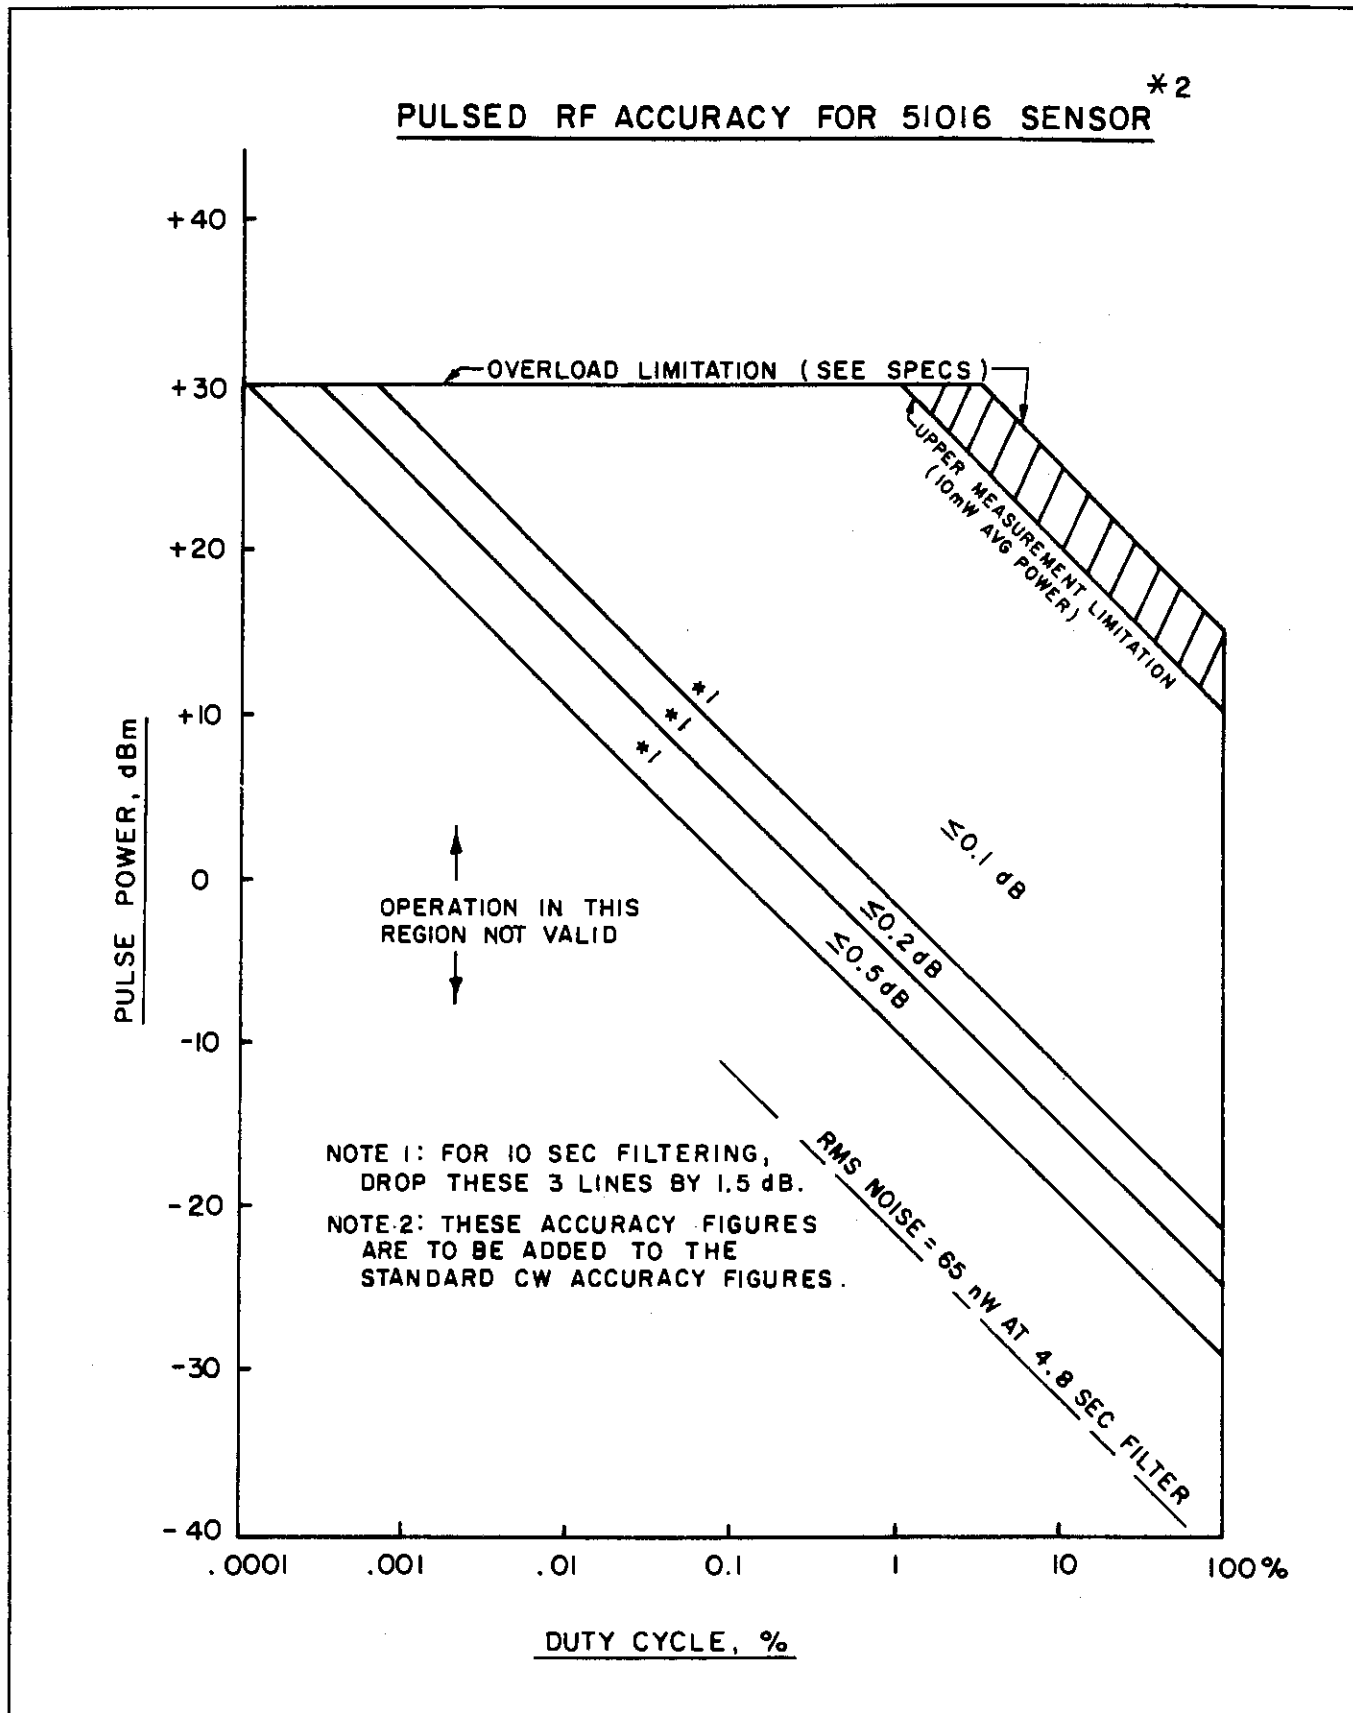

Figure 4-15. Pulsed RF Accuracy for 51016 Sensor
1. **Thermal Sensors.** Figures 4-15 and 4-16 show the regions of valid duty cycle and pulse power that apply to the thermal sensors. As the duty cycle decreases, the average power decreases for a given pulse power and the noise becomes a limitation. Also, there is a pulse power overload limitation, which applies no matter how short the duty cycle is. Lastly, the average power rating of the sensor cannot be exceeded (there is some headroom between the measurement limitation and the burnout level of the sensor).